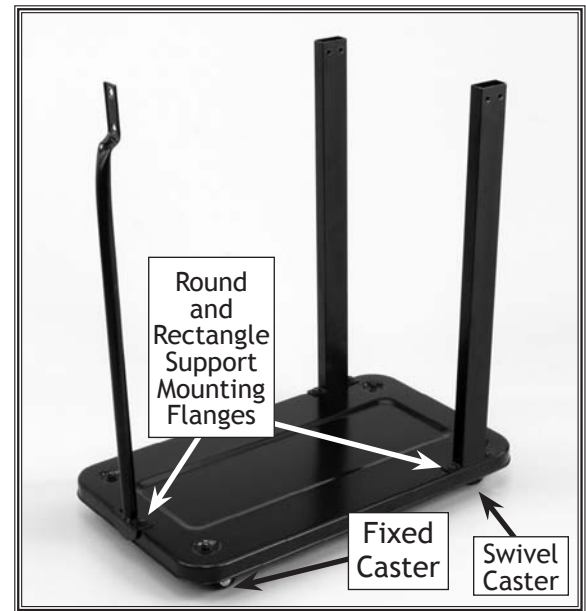

Figure 10. Base assembly.
2. Install two swivel casters with the two $\frac{5}{16}$ "-18 acorn nuts and $\frac{5}{16}$ " flat washers (see **Figure 10**).
3. Install the two fixed casters with the four M6-1 x 10 cap screws (see **Figure 10**).
4. Place the round and rectangle support mounting flanges against the base, and install with six $\frac{5}{16}$ "-18 x $\frac{1}{2}$ " hex bolts (see **Figure 10**).